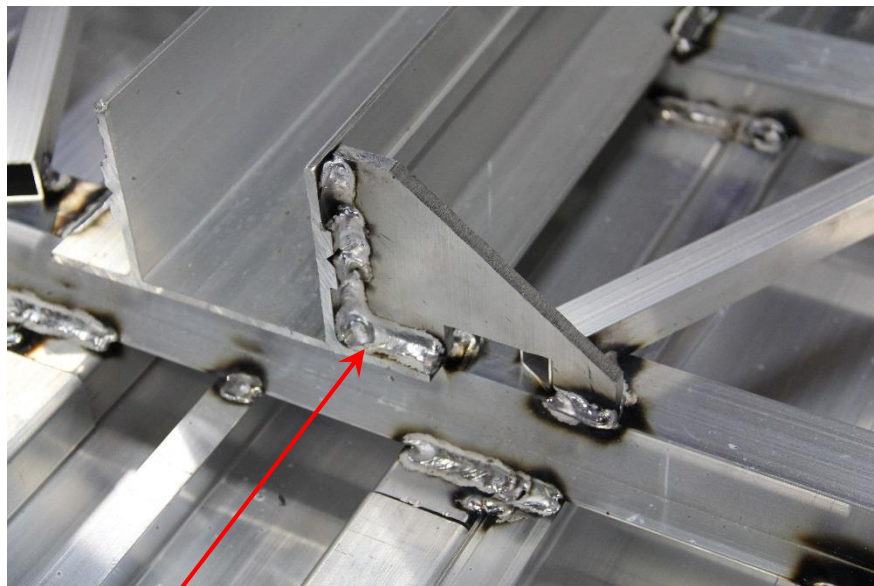

Figure 6
- 4.0 Add 2 gussets and .25” fillet weld as shown in Figure 6 and 7.